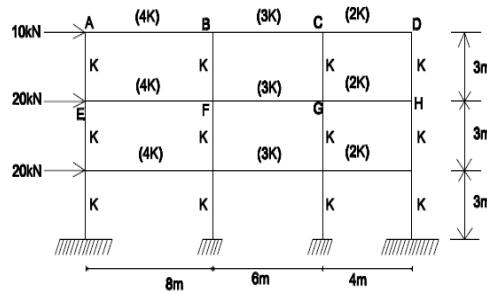

Figure 2
- 6 The two bay rigid frame shown in Fig.2 is fabricated from members of a uniform section having a shape factor of 1.15 and yield stress of 16 t/cm^2 . Determine the required section modulus to provide a load factor against collapse of 1.75. Draw the BMD at collapse. 14M